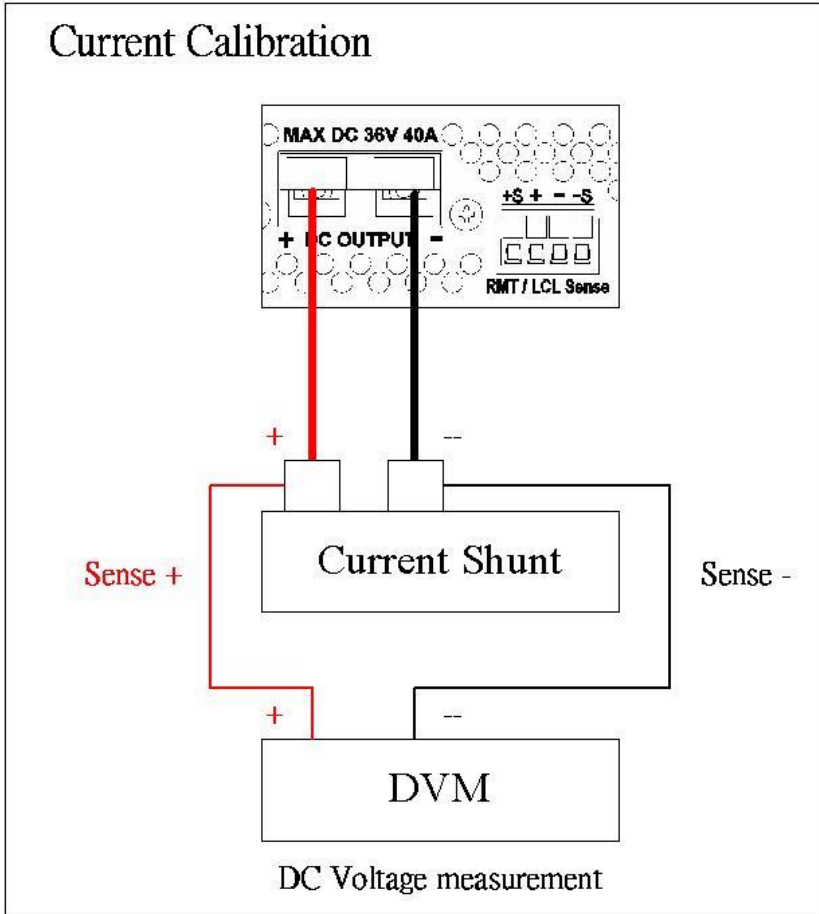

Figure 2
A. Connect two output terminals of the power supply to two ends of the current shunt, and connect DVM to the sensor of current shunt to measure DC voltage as shown Figure 2. Press **3** to enter current calibration screen.